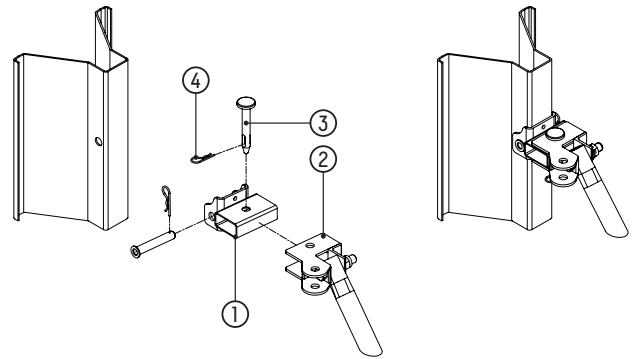

Fig. 35
- Props attached to the **CIRCA-FLEX** omega profiles with push-pull prop connector complete with pin and cotter-pin. (Fig. 35).